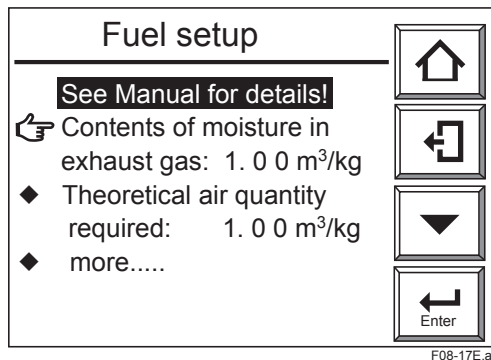
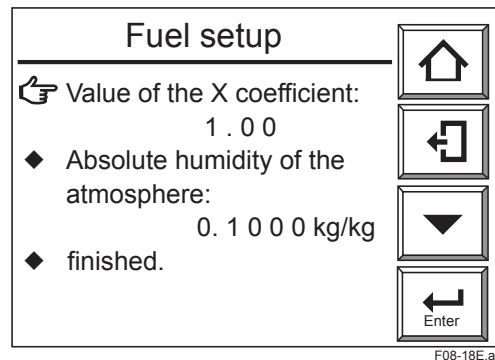

Figure 8.17 Fuel Setup
Figure 8.18 Fuel Setup
- (1) Press the [Setup] key in the Basic panel display to display the Execution/Setup display.
- (2) Select the “Commissioning” in the Execution/Setup display. The Commissioning display then appears.
- (3) Select the “Others” in that display and then the Fuel setup shown in Figure 8.17.
- (4) Choose the “Theoretical air quantity required” and the “Contents of moisture in exhaust gas” in turn. The numeric-data entry display then appears. Enter numeric data using the numeric keys.
- (5) Choose “more” in the Fuel setup display. The Fuel setup shown in Figure 8.18 then appears.
- (6) Set the numeric data to the “Value of the X coefficient” and then to the “Absolute humidity of the atmosphere”.
- (7) Choose “finished” to return to the display shown in Figure 8.17.